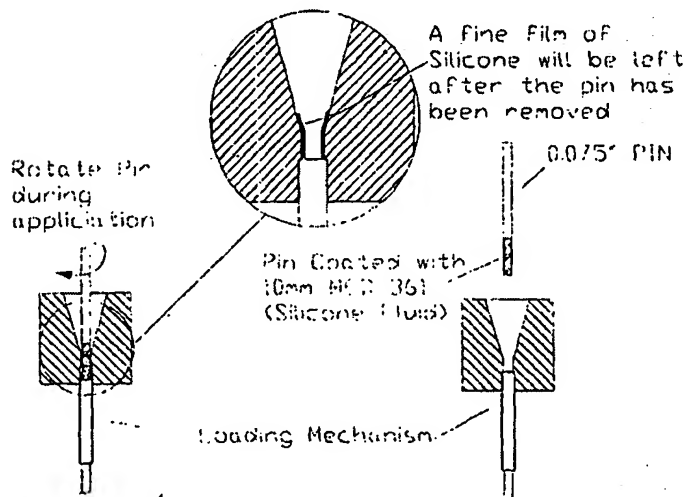

Fig 2.
- 6.5 Still holding the 0.075" pin vertically, slowly slide it in the bottom of the Perspex rod turning it as you do so at least 360° in the process. Shown in Fig 2.